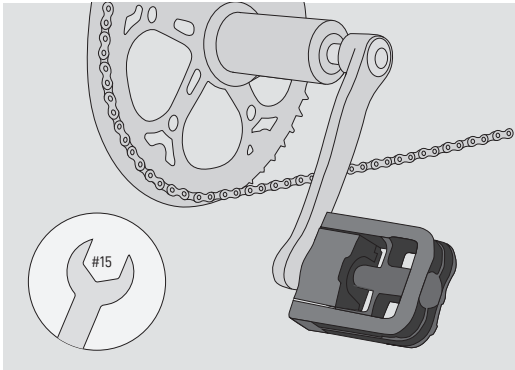

Figure 6.1
6. Step 6: Because the tooth patterns on the left and right of the pedal are different, the installation method is different, L on the left / R on the right. Use R to lock the crank in the clockwise direction, and use L to lock in the counterclockwise direction on one side of the crank (**As: Figure 6.1**).